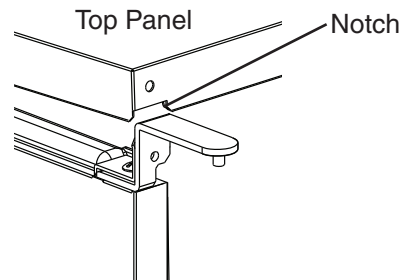

**Fig. 12**
- c) Remove hinge (A)-right and the bracket from the right side of the unit. Set aside hinge (A)-right; it is not needed. Remove the top brace from the left side. Fasten hinge (A)-left and the bracket to the left side and the top brace to the right side. See Fig. 12.